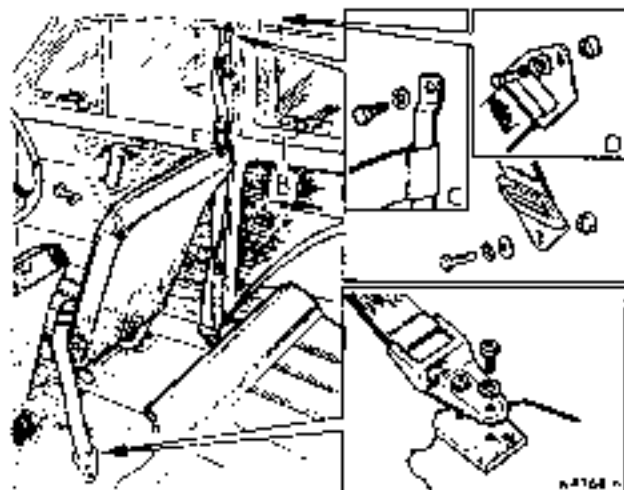

Fig. R.55
- (1) Locate the two centre pillar fixing holes by feeling the surface of the trim and cut the trim in the form of a cross immediately over the two holes.
- (2) Fold the edges of the trim under the trim panel.
- (3) Attach the bar-type bracket of the long belt to the pillar, using the screws and washers provided (see [c], Fig. R.55).
- (1) Position the belt clip on the centre pillar 15 in. (381 mm.) below the upper fixing point of the bar-type bracket of the long belt (see [A], Fig. R.55). The open end of the clip is to face forward.
- (2) Use a No. 31 drill ( $\frac{1}{2}$  in. diameter) to drill the two fixing holes in the pillar.
- (3) Secure the clip to the pillar with the two fixing screws provided.
- (4) Position the warning label on the rear of the front seat squab as near to the top of the squab as possible.
- (5) Use a No. 38 drill ( $\frac{1}{10}$  in. diameter) to drill the two fixing holes.
- (6) Secure the label to the squab with the two No. 6 screws provided.
- (2) Place the shouldered distance piece into the under side of the top end bracket of the long belt so that the large diameter of the distance piece will abut the pillar.
- (3) Secure the bracket to the pillar weld-nut with the screw, plain washer, and waved washer (see [D], Fig. R.55); ensure that the wave of the washer faces the bracket.
- (1) Position the belt clip on the centre pillar 15 in. (381 mm.) below the upper fixing point of the long belt (see (A), Fig. R.55). The open end of the clip is to face rearward.
- (2) Use a No. 31 (.120 in. diameter) drill to drill two holes in the pillar and secure the clip to the pillar with the two No. 8 screws provided.
- (3) Secure the warning plate to the rear of the front seat squab as detailed in Section R.38.